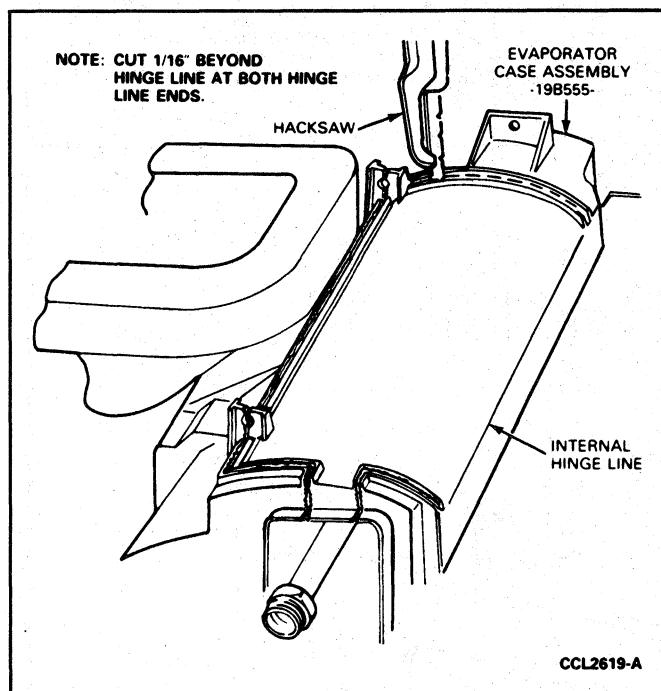

FIG. 38 Evaporator Case Cutting
11. Using a hot knife or small saw blade, cut top of evaporator case between raised outline (Fig. 38).